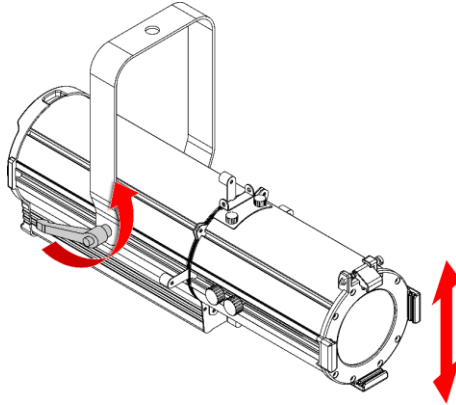

Fig. 09
- 01) Turn the **adjustment handle (14)** counterclockwise to release it.
- 02) Tilt the device at the desired angle (see Fig. 09).
- 03) Turn the **adjustment handle (14)** clockwise to tighten it. Make sure that the device cannot move freely after the **adjustment handle (14)** is tightened.